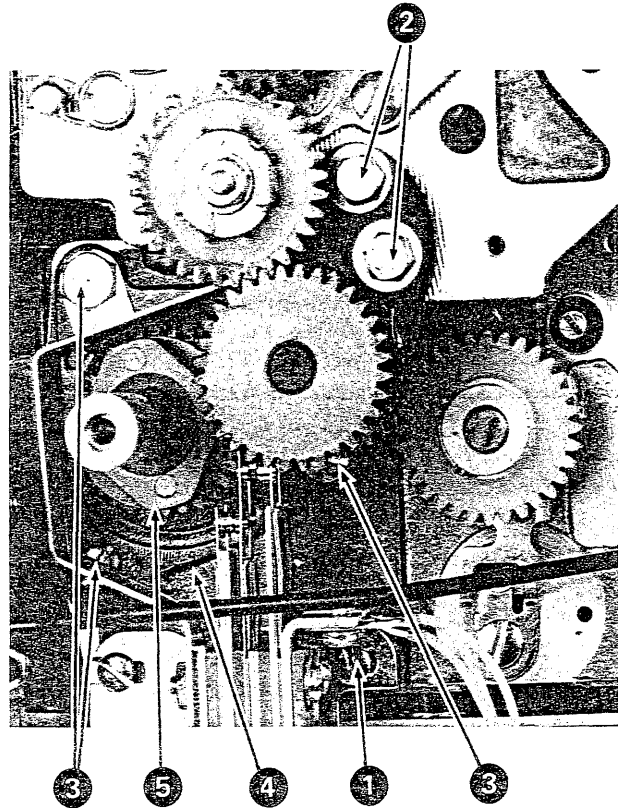
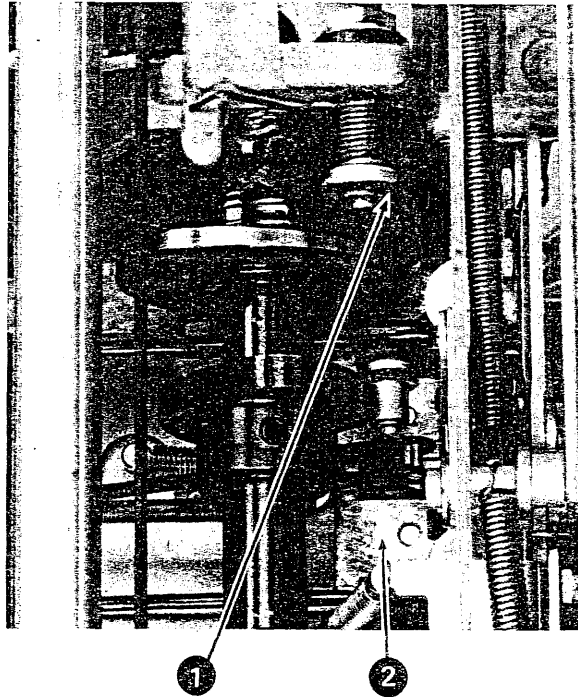

Figure 4-4. Cycle-Clutch and Cycle-Shaft Removal (Steps 9-13)
Figure 4-5. Cycle-Clutch and Cycle-Shaft Removal (Steps 14-16)
9. Remove the C1-C2 contact shield, remove the front screw from the C1-C2 contact assembly (No. 1, Figure 4-4), and swing the assembly down out of the way of the bearing plate.
10. Remove the cycle-clutch check pawl and spring (No. 1, Figure 4-5).
11. Remove the intermediate gears (No. 2, Figure 4-4).
12. Remove the three bearing-plate screws (No. 3, Figure 4-4).
13. Pry the bearing plate (No. 4, Figure 4-4) away from the frame (front end first) with a screwdriver.
14. After partially removing the bearing plate, force the positive bail down with a screwdriver (No. 2, Figure 4-5), making sure that all the latches are under the bail. Insert a fluted wrench through the lower left bearing-plate mounting hole (No. 3, Figure 4-4) and over the top of the bail to hold the bail down. Do not remove the positive-bail restoring spring.
16. When installing a new cycle shaft, remove the C1-C2 cams (No. 5, Figure 4-4), the cycle-shaft gear (behind the C1-C2 cams), and the shims from the old shaft, and put them on the new one. Be sure to put the flexible nylon shim on first.